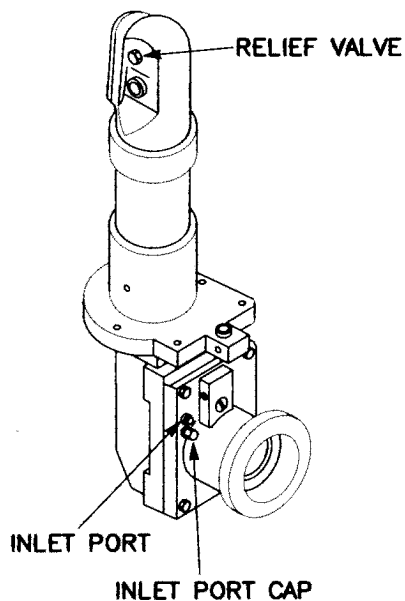

Figure 3-63 Weapon Sight, PN 12279200
j. Weapon Sight, PN 12279200 (fig. 3-63).